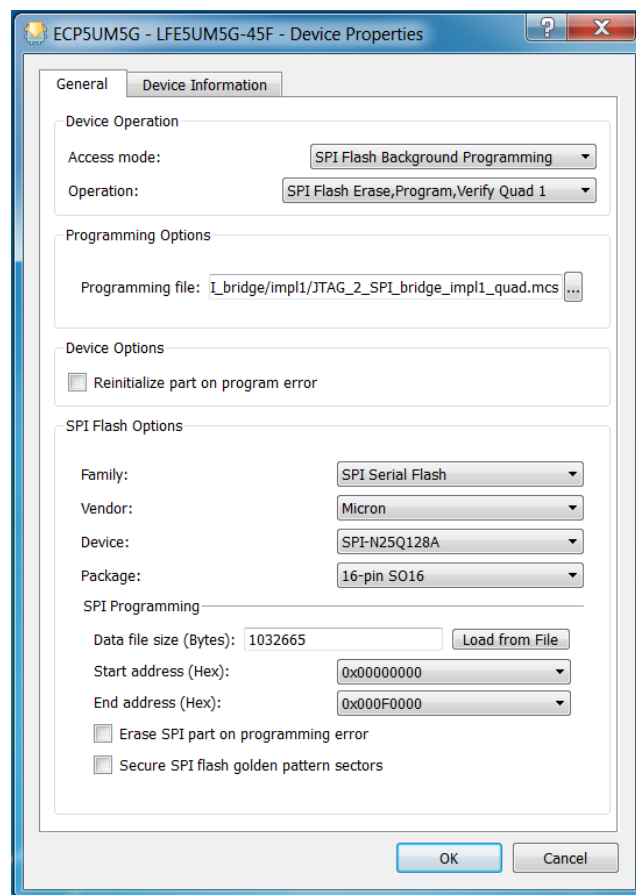

Figure 6.2. Device Properties Dialog Box
3. Select **Programming file** and appropriate vendor and device information from SPI Flash Options section in the GUI. Click **OK**. An example of ECP5 Versa board is shown below, in Figure 6.2.